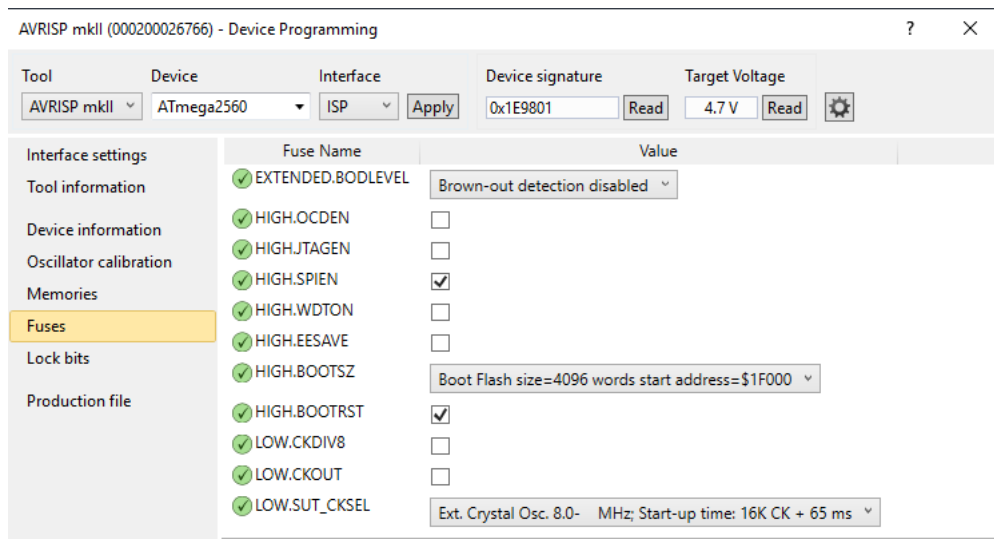

Figure 8: Device Programming dialog box in Atmel Studio 7
6. Open the Atmel Studio 7 software. Select the option **Device Programming** or use the shortcut **Ctrl + Shift + P**. A dialog box will open as shown in Figure 8.
13. Go to **Fuses** and select the Fuse settings as shown in the Figure 8.
14. Make sure that the option of **Auto read** and **Verify after programming** are selected as shown in Figure 8.
16. After the programming is complete, you will see the message as shown in the below Figure 8.